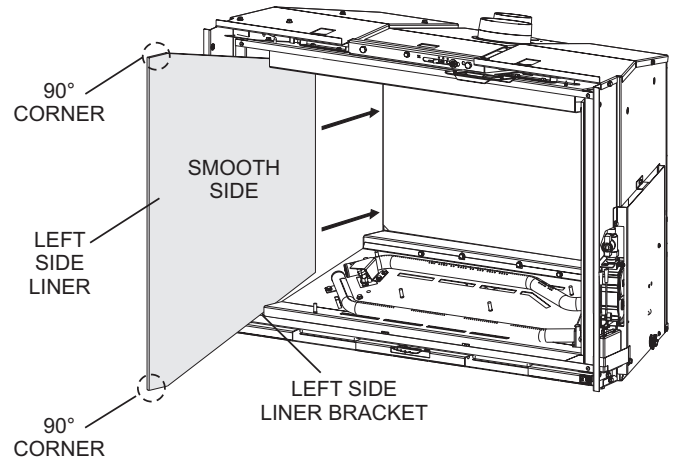

Figure 12
12. Verify the glass is oriented correctly as shown in **Figure 12**. Both front corners are at 90° angles. Slide left-side of liner along left side of firebox as shown with smooth surface toward the burners. Liner must go over or around left side liner bracket. When liner has passed the left side liner bracket, lower liner and slide forward until it rests behind the bracket. **See Figure 12.**